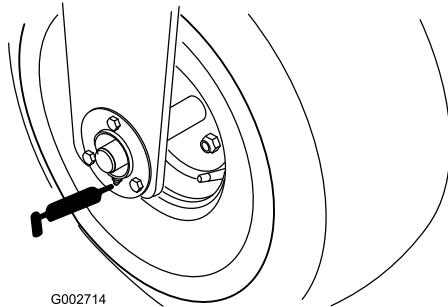

Figure 23
- Front wheel bearing (1) (Figure 23)